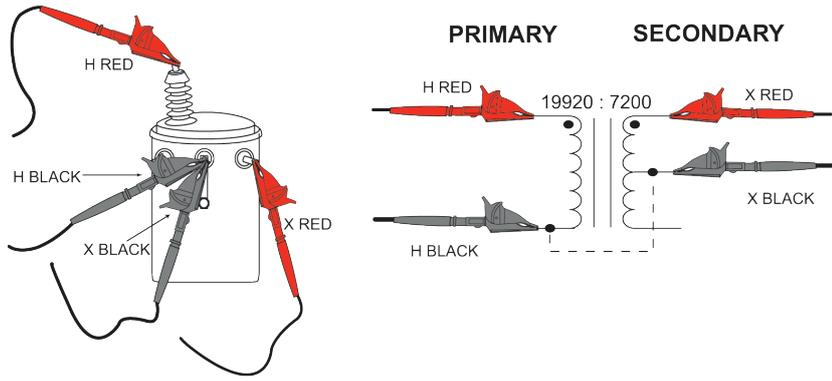

Figure 101
- Connect the Primary (H) and Secondary (X) cables to the appropriate connectors on the DTR® 8511 and the transformer under test (see Figures 101 & 102).